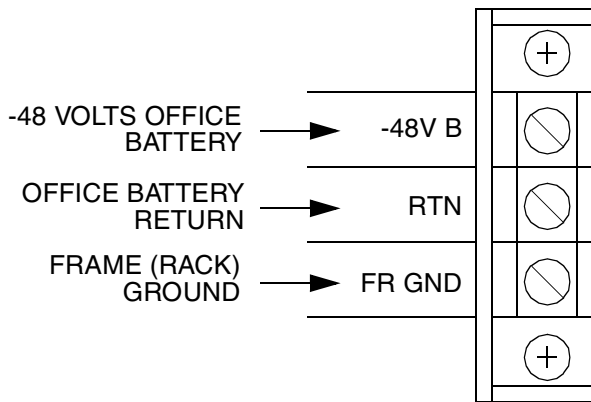

Figure 5. Power Terminal Block
4.02 Refer to Figure 5 when making power and ground connections.